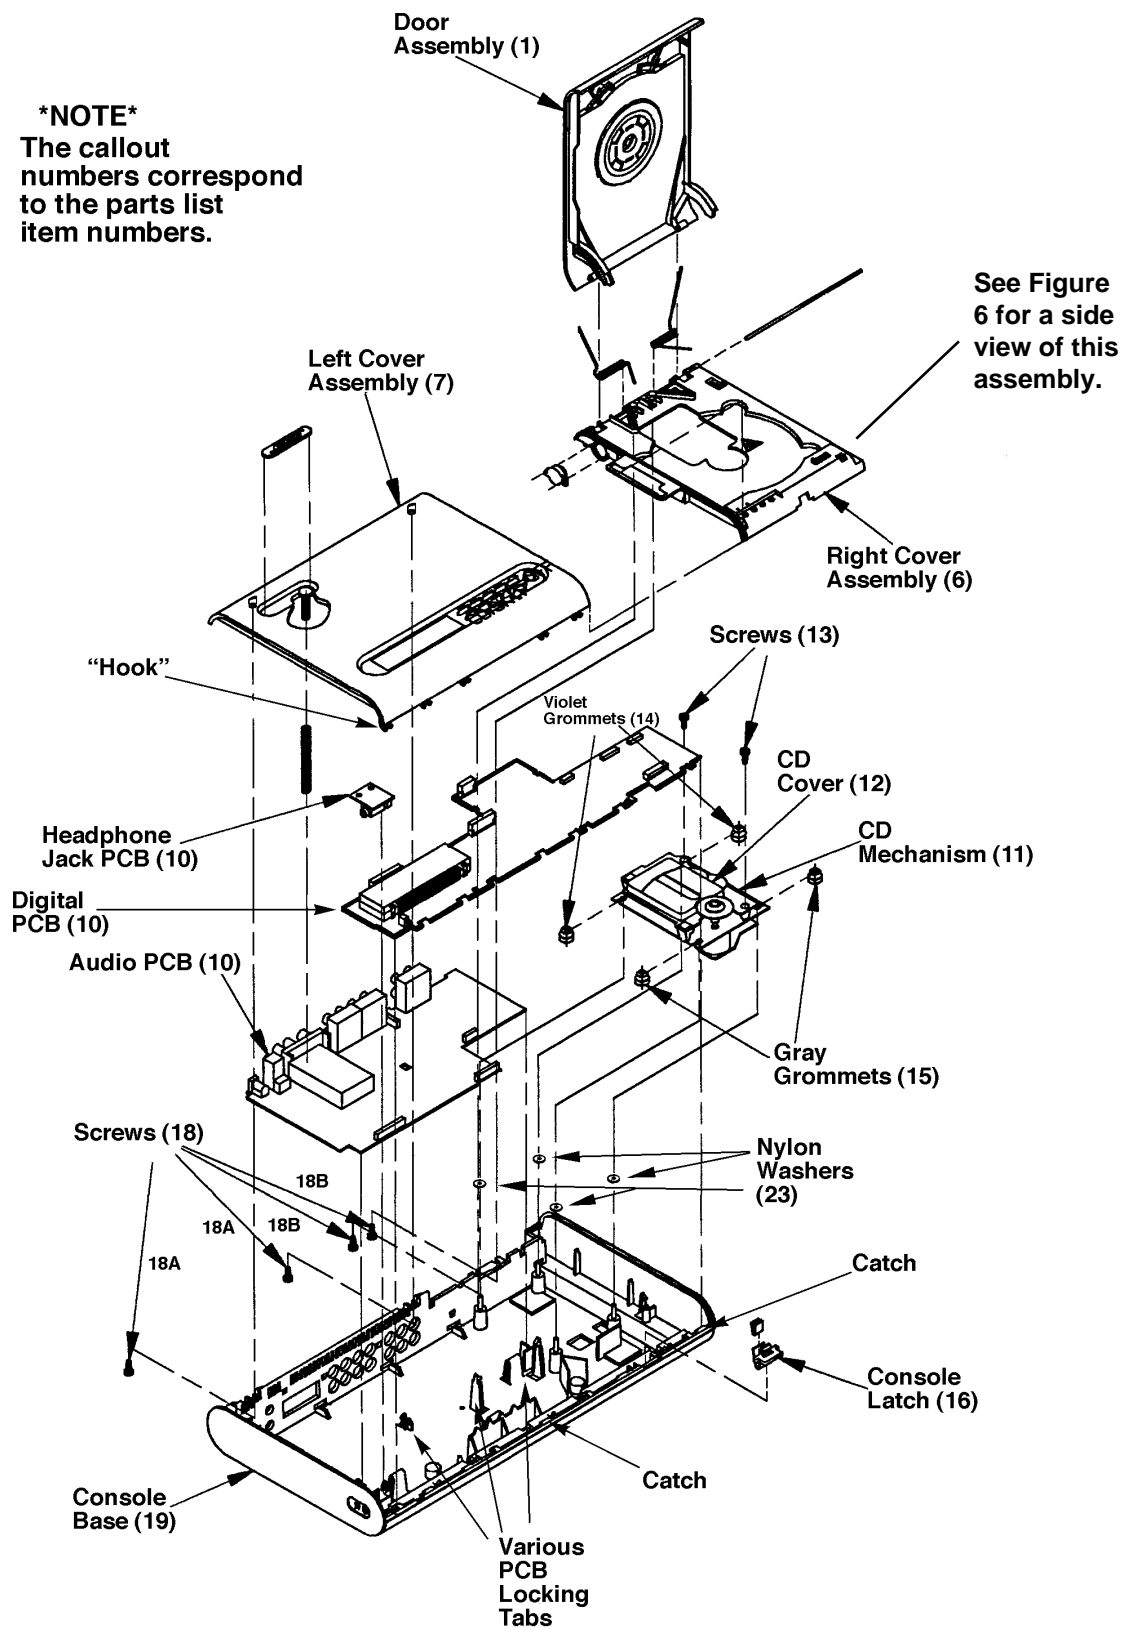

Figure 3. Labelled Exploded View
**Note:** Refer to Figures 3 and 5 for Procedures 1 and 2.
**1.1** Remove the two screws (18A) that secure the left cover (7) to the base (19).
**Note:** Refer to Figures 3, 5 and 6 for Procedures 3 and 4.
**Note:** Refer to Figures 3, 4 and 7 for Procedures 5 and 6.
**6.2** Slide the violet (14) and gray (15) grommets into their respective slots on each corner of the mechanism. See Figure 3 for their proper locations.
**6.5** Place the mechanism on the four metal posts located in the base (19). Position as shown in Figure 3.
**Note:** Refer to Figures 3 and 7 for Procedures 7 and 8.
**7.3** There are four black plastic tabs that hold the PCB (10) in position. See Figure 3. Flex them carefully outward and pull the PCB up and out.
**Note:** Refer to Figures 3 and 7 for Procedures 9 and 10.
**Note:** Refer to Figures 3 and 7 for Procedures 11 and 12.